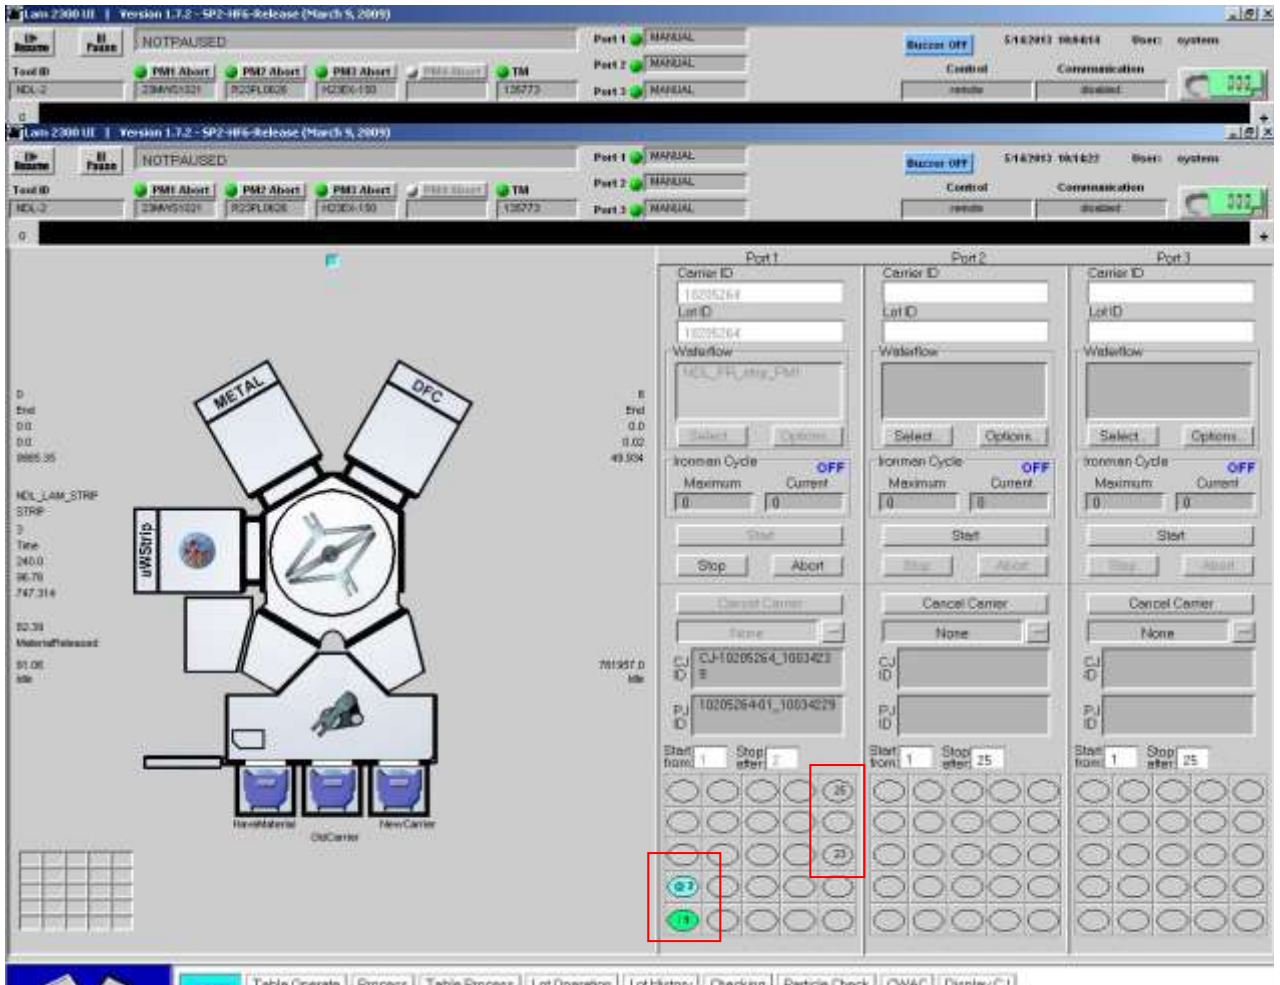

Fig.3: Wafer states
4. From the color of wafer icon, show the wafer states. [Gray: not run、Green: Finished、Blue: in transfer、Yellow: Some error happened in process] (Fig. 3)。